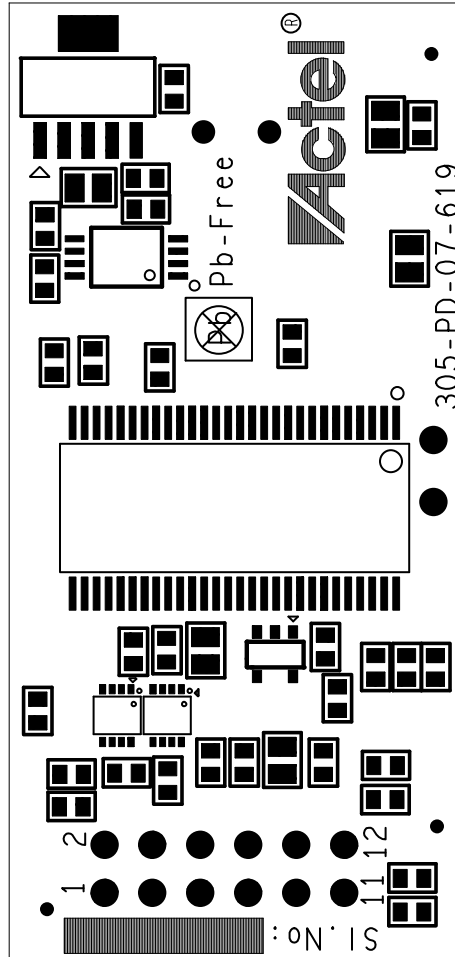

Figure 4-26 · Low-Cost Programming Stick – Bottom Silkscreen
4. Bottom signal layer (Figure 4-26 on page 48)